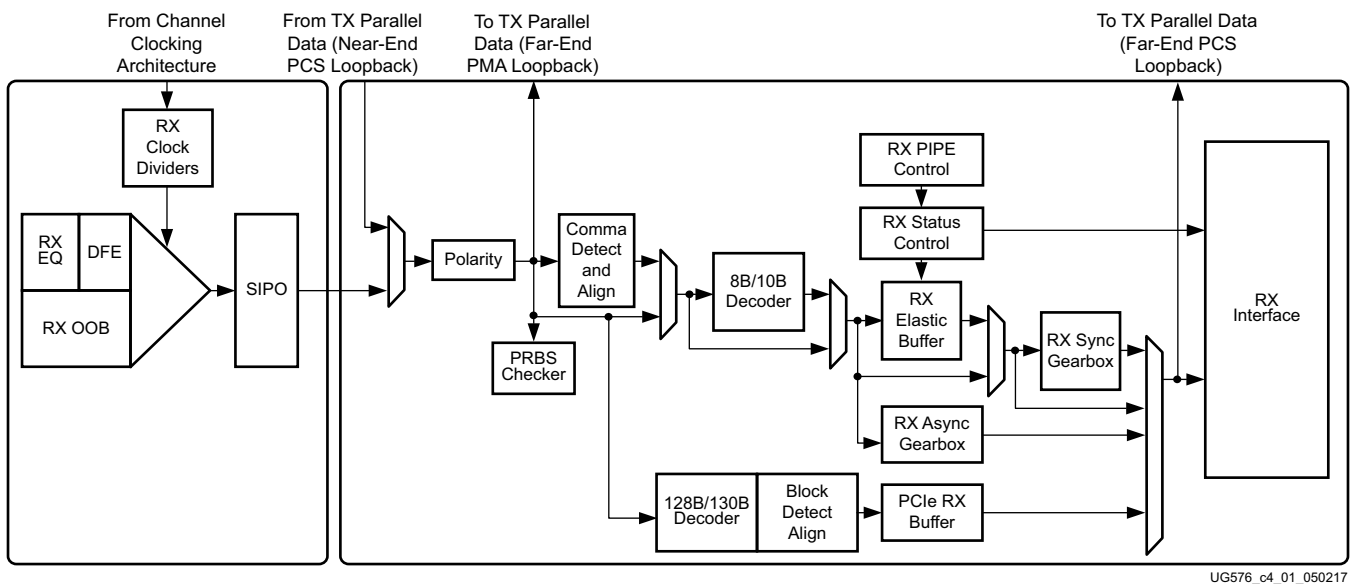

Figure 4-1: GTH Transceiver RX Block Diagram
This section shows how to configure and use each of the functional blocks inside the receiver (RX). Each GTH transceiver includes an independent receiver, made up of a PCS and a PMA. Figure 4-1 shows the blocks of the GTH transceiver RX. High-speed serial data flows from traces on the board into the PMA of the GTH transceiver RX, into the PCS, and finally into the interconnect logic. Refer to Figure 2-11, page 44 for the description of the channel clocking architecture, which provides clocks to the RX and TX clock dividers.
The RX analog front end (AFE) is a high-speed current-mode input differential buffer (see Figure 4-1). It has these features: